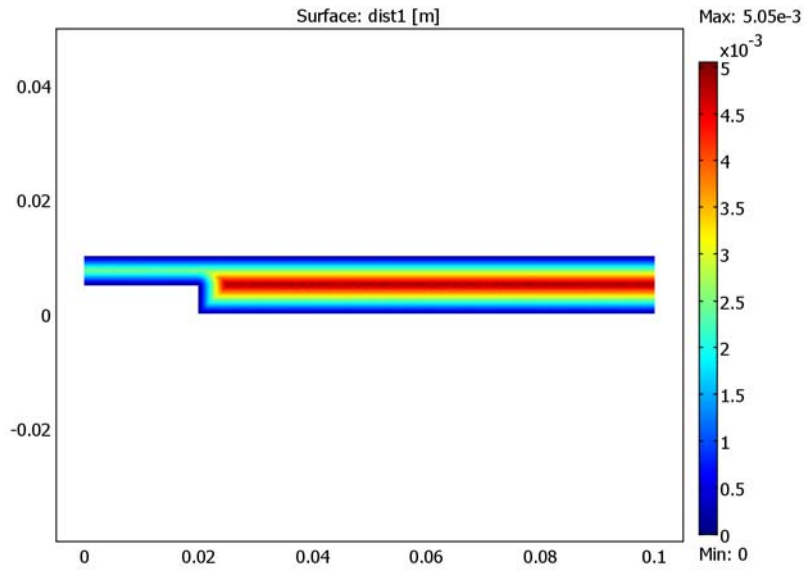

Figure 4-63: Visualization of the distance to the walls in the Backstep model.
- 6 Click **OK** to plot the distance to the wall as a surface plot (see Figure 4-63 on page 283).